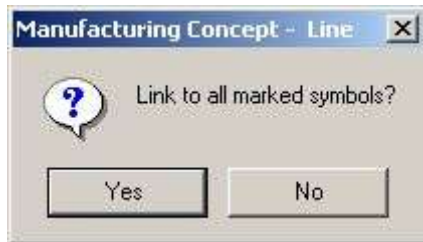

Figure 47: Confirm message with Yes
- 5) Confirm the selection with **OK**. Please refer to the Figure 47.